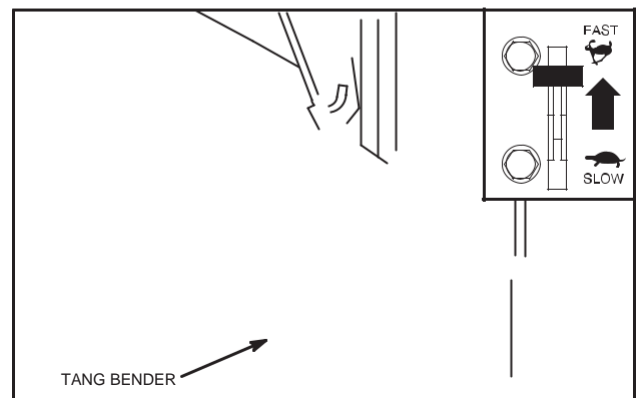

Fig. 25 - Adjusting Top No Load Speed
- a. Bend tang to obtain correct RPM, Fig. 25.